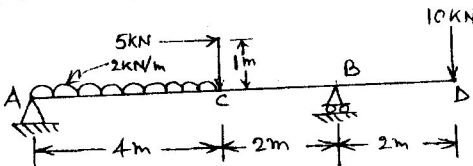

Fig. 1
- (b) Draw the shear force and bending moment diagrams for a beam shown in fig. 1 10